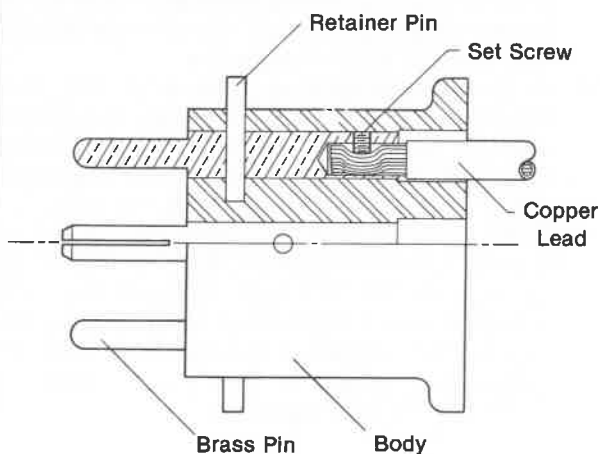

Figure 1
To assemble and wire the octopus plug, proceed as follows. See Figure 1.
6. Insert the retainer pin, and tap it firmly into place. The retainer pin will protrude approximately 3/8" when fully seated. See Figure 1.